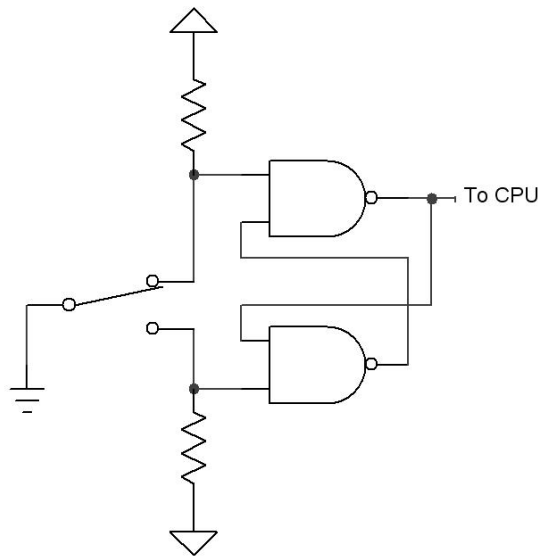

Figure 1: The SR debouncer
Figure 1 shows the classic debounce circuit. Two cross-coupled NAND gates form a very simple Set-Reset (SR) latch. The design requires a double-throw switch. Two pull-up resistors generate a logic one for the gates; the switch pulls one of the inputs to ground.